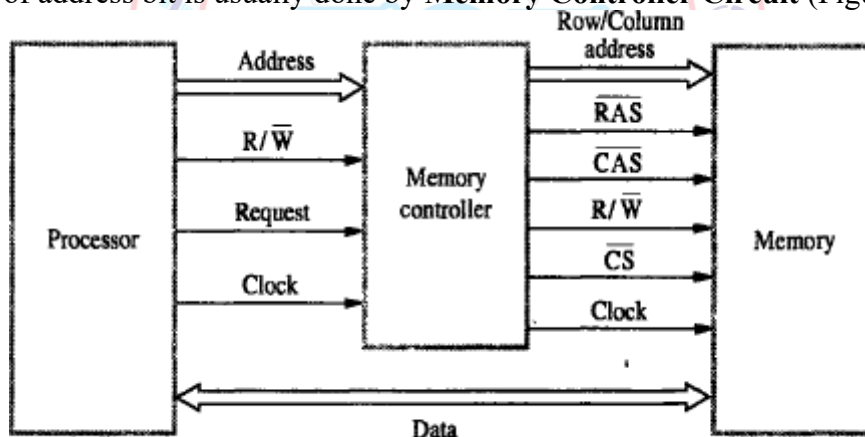

Figure 5.11 Use of a memory controller.
- The Multiplexing of address bit is usually done by **Memory Controller Circuit** (Figure 5.11).